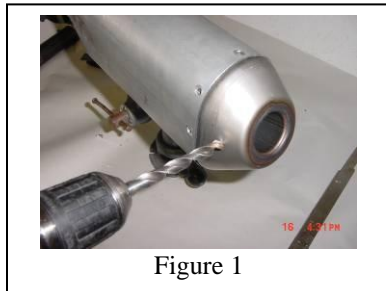

Figure 1
5. Drill a 3/8" hole through the side of the stock endcap to provide a place to grip or drive the endcap off **Figure 1**. Once again, you will not be able to re-use the stock endcap, so drilling or bending it will not effect the finished installation. Be careful not to bend the canister as this may interfere with the finished installation. Using the heat gun, heat the muffler canister where it is joined to the stock endcap. This will loosen the factory sealant.